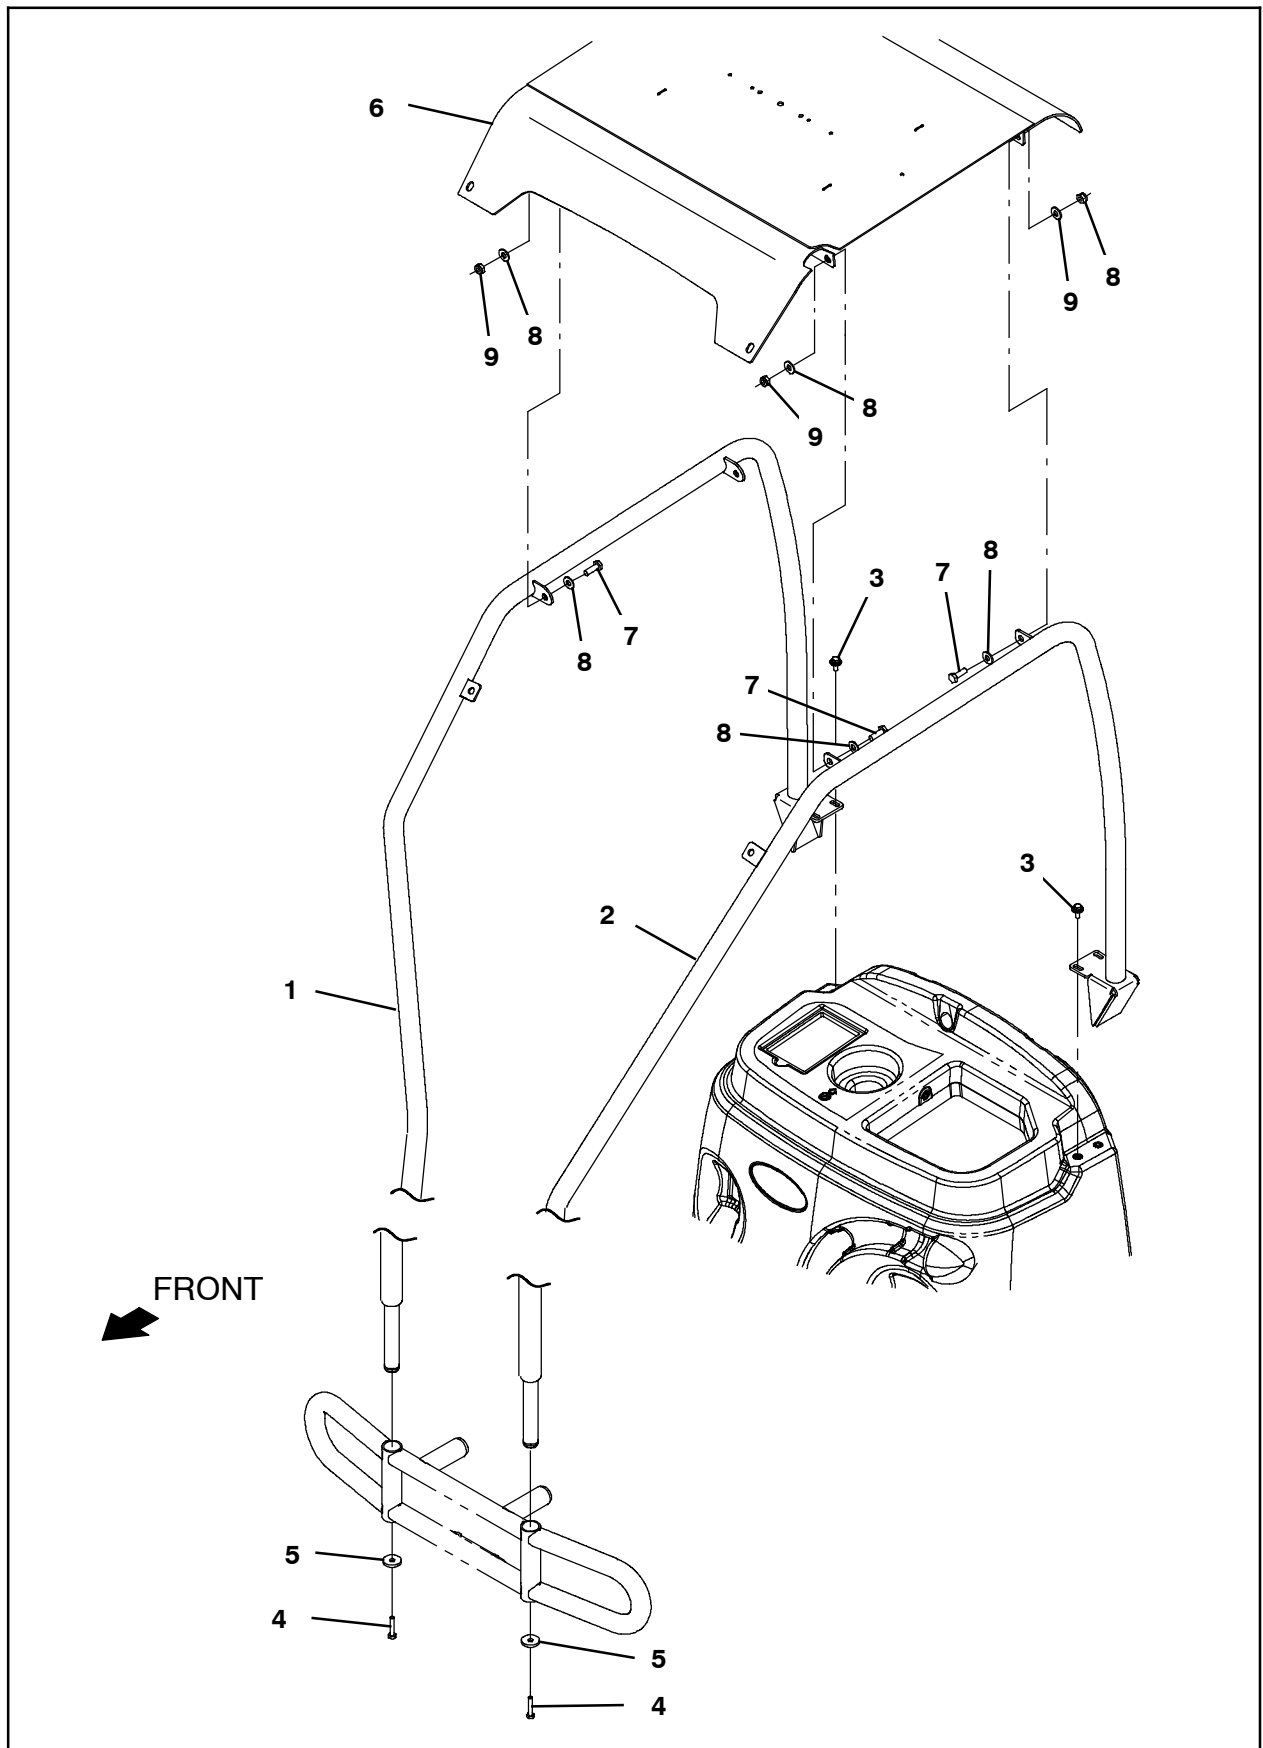

FIG. 8
3. Insert the right guard tube (1) front leg into the front bumper. (Fig. 8)
4. Use one M8 hex screw (4) and one flat washer (5) to secure the right guard tube (1) to the front bumper. (Fig. 8)
5. Insert the left guard tube (2) front leg into the front bumper. (Fig. 8)
6. Use one M8 hex screw (4) and one flat washer (5) to secure the left guard tube (2) to the front bumper. (Fig. 8)
7. Use two M8 hex screws (3) to secure the right guard tube (1) back leg to the recovery tank. (Fig. 8)
8. Use two M8 hex screws (3) to secure the left guard tube (2) back leg to the recovery tank. (Fig. 8)
9. Use four M10 hex screws (7), eight flat washers (8), and four M10 hex nuts (9) to install the overhead guard top (6) onto the right guard tube (1) and left guard tube (2). (Fig. 8)
10. Tighten all hardware used to install the overhead guard kit onto the machine. (Fig. 8)